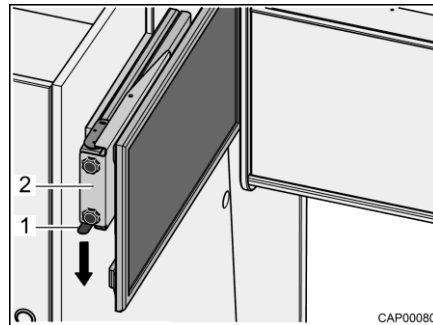

Fig. 47 Pull-out with flat screen
- Press catch spring (Fig. 47,1) downwards and pull pull-out (Fig. 47,2) with flat screen out horizontally towards the centre of the vehicle.
- Push the pull-out (Fig. 47,2) with flat screen horizontally as far as it will go. The catch spring (Fig. 47,1) engages audibly.